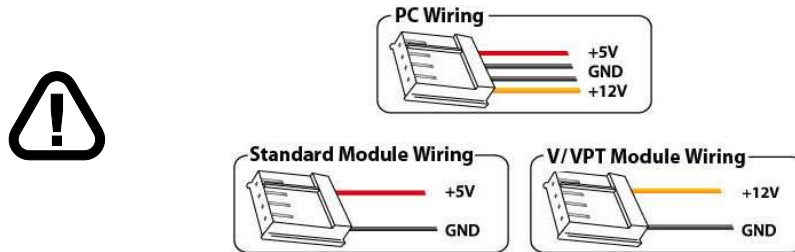

Figure 11: PC vs Matrix Orbital Display Module Wiring
- First, you will want to make sure that you are using the correct power connector. Standard floppy drive power cables from your PC power supply may fit on the Power/Data Connector however they do not have the correct pin out as can be seen in *figure 11 on page 7*. Matrix Orbital supplies power cable adapters for connecting to a PC, which can be found in the *Accessories Section on page 2*.